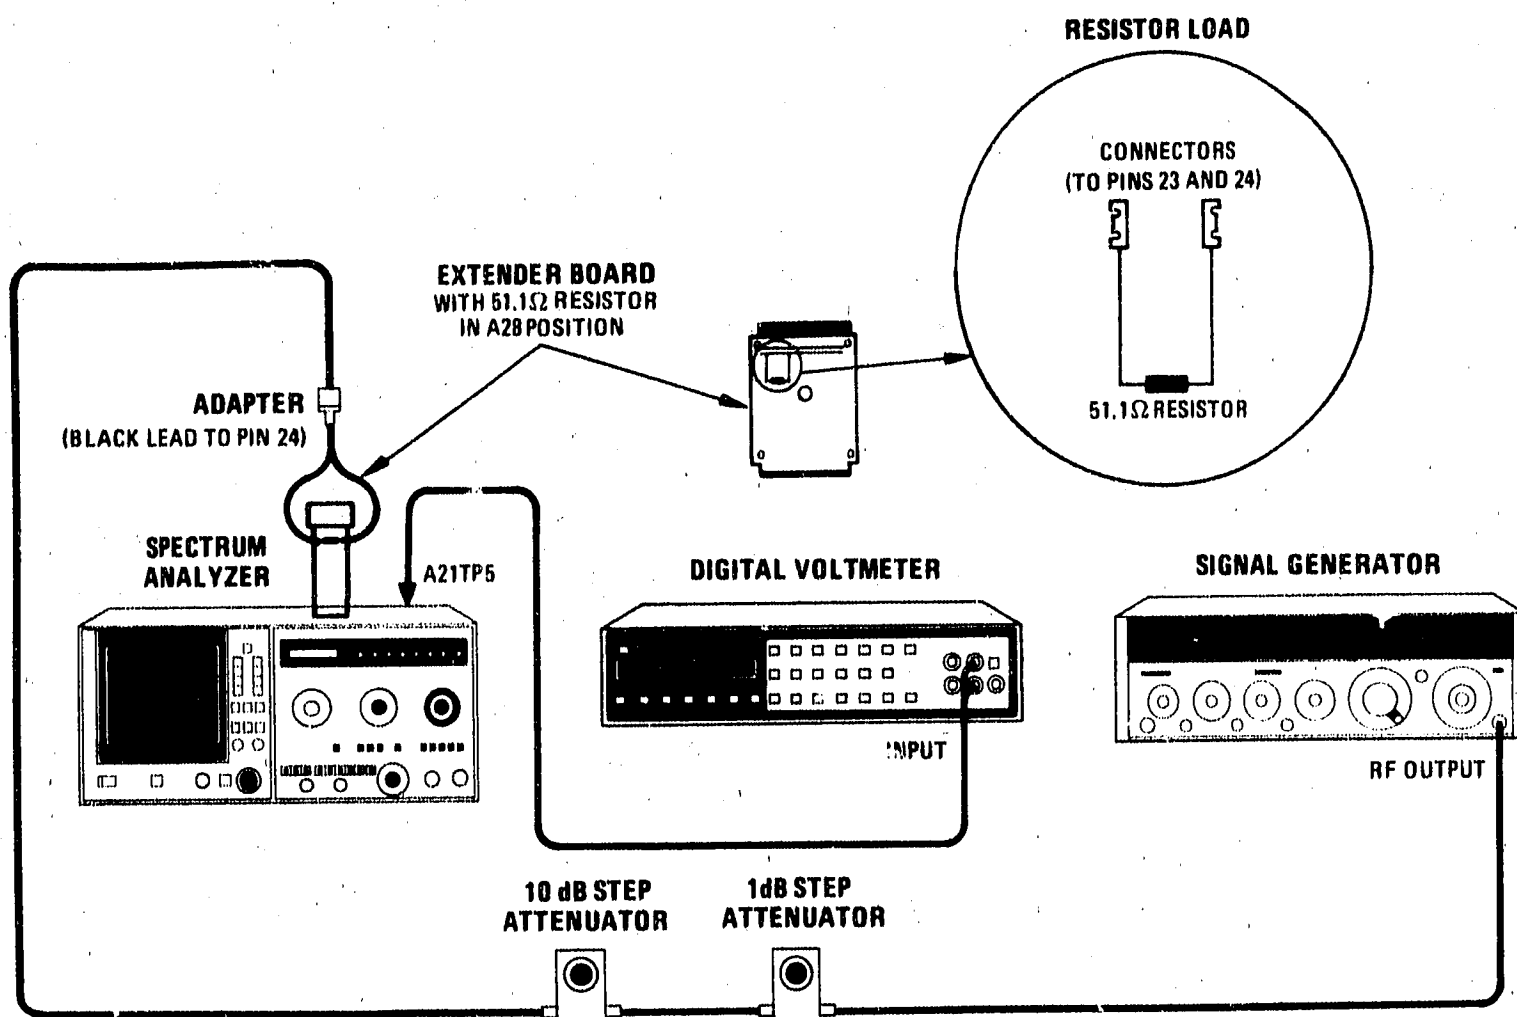

Figure 5-24. Step Gain Adjustment Test Setup
2. Connect 51.1 ohm resistor between pins 23 and 24 on extender board (Figure 5-24). Remove A28 Variable Gain Amplifier and install extender board in its place. (Do not install A28 on extender board.)
3. Reconnect power cord, set LINE switch ON, and connect equipment as shown in Figure 5-24.